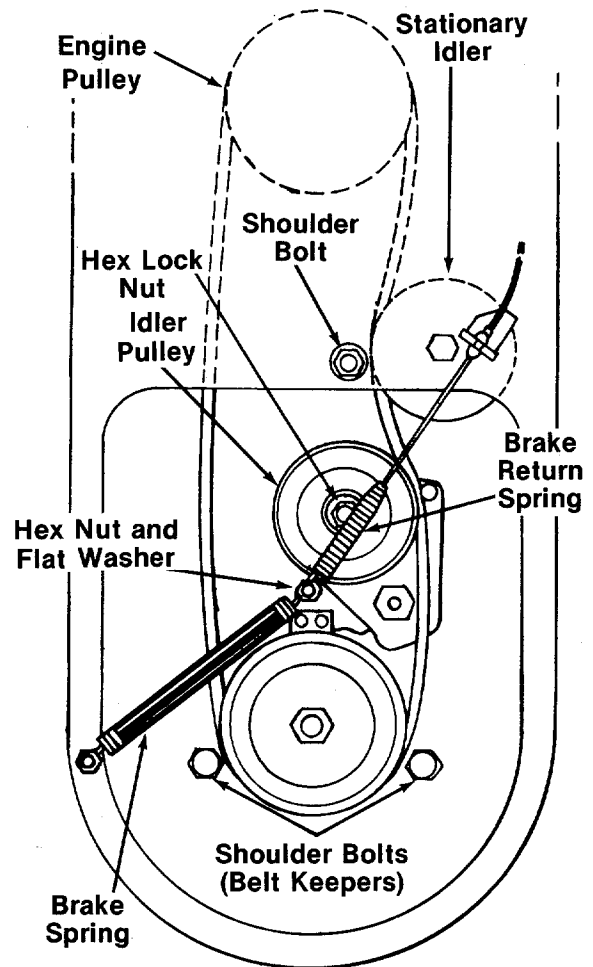

FIGURE 20.
5. Remove shoulder bolts (belt keepers) at blade pulley. See figure 20.
6. Remove hex lock nut at brake bracket assembly. See figure 20.
7. Remove brake spring, flat washer and brake return spring from brake bracket assembly. See figure 20.
8. Remove the idler pulley from the idler brake bracket assembly. See figure 20.
9. Remove shoulder bolt (belt keeper) next to stationary idler. See figure 20.